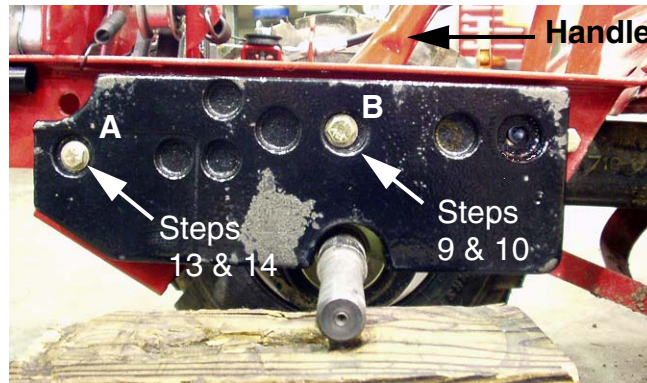

FIGURE 4
12. Refer to Figure 4. Align the weight, with bolt and washers, onto the frame so that the bolt goes through the “B” hole in frame and the lower handle.
16. Insert the screw /washer assembly into the forward most frame weight hole “A”. Align the frame weight and screw with the hole in the frame and thread it into the hole. DO NOT tighten, allow frame weight to move. See Figure 4.